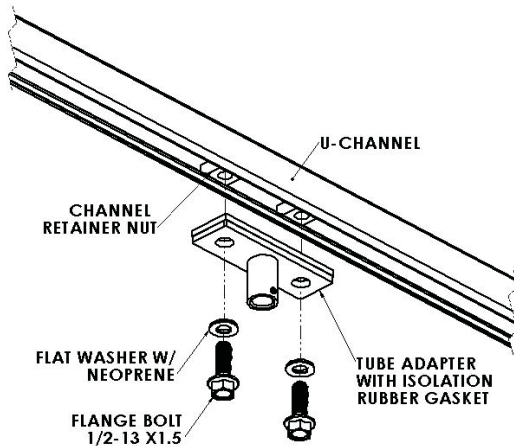

Figure 1
Step 1: Install tube adapter to U-channel using the provided flange bolt, flat washer with neoprene and channel retainer nuts. First, insert the channel retainer nuts inside the U-channels then line up the holes of the tube adapter to the threaded holes of the channel retainer nuts. Secure tube adapter to U-channel with the flange bolts and flat. Slide and position the tube adapter to desire location along the U-Channels then tighten flange bolts permanently (Figure 1).